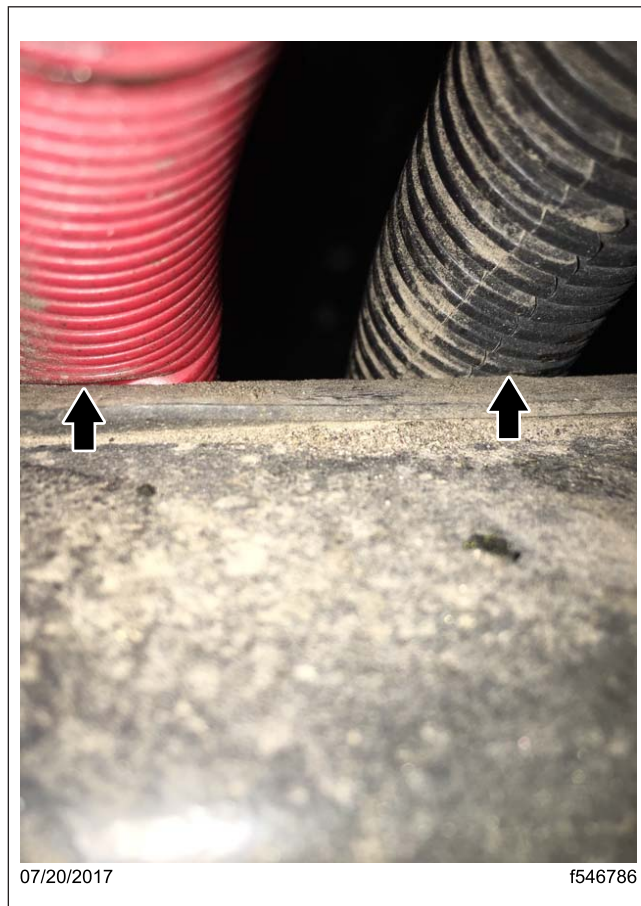
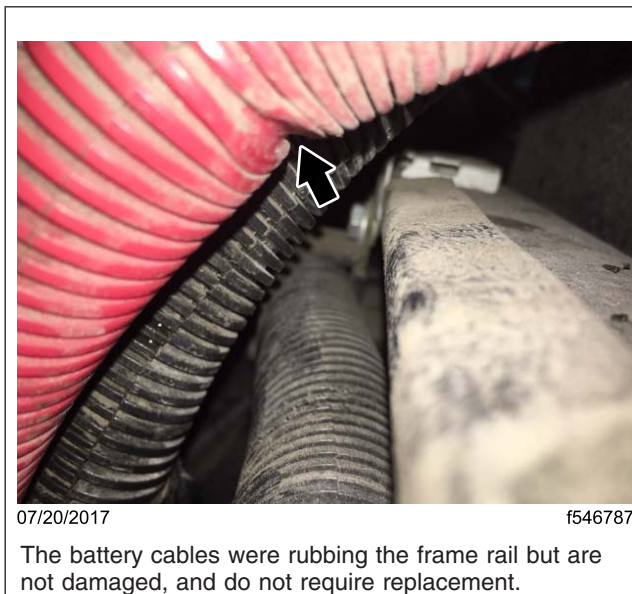

Fig. 2, Battery Cables Rubbing the Frame Rail
Fig. 3, Correct Battery Cable Clearance of the Frame Rail
- If the battery cable bracket is incorrectly installed or missing, inspect the battery cables for damage. It is possible for the conduit that covers the cable to be damaged, but the battery cables are not damaged. Damage to the battery cables could include, but is not limited to, a cut in the battery cable or visible cable insulation. See Fig. 2 and Fig. 3. After inspection of the battery cable, go to 'Battery Cable Bracket Procedure.'
IMPORTANT: If the battery cable(s) are damaged, replace the battery cable(s). It is possible for the conduit that covers the cable to be damaged, but the battery cables are not damaged. Damage to the battery cables could include, but is not limited to, a cut in the battery cable or visible cable insulation. See Fig. 2 and Fig. 3